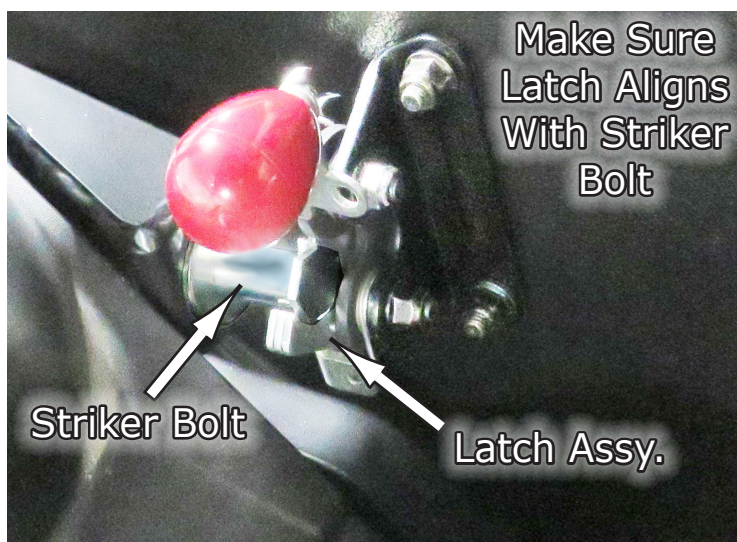

Fig.17
17. Once the **Latch Assy** is installed, now test it out by shutting and opening the door, making sure that the Latch catches onto the **Striker Bolt** and that you can open it easily without it catching or holding up. If alignment isn't correct, use washers or spacers to move the Striker Bolt forward or if needed, and adjust any other areas needed to make it function properly. See **Fig.17**.